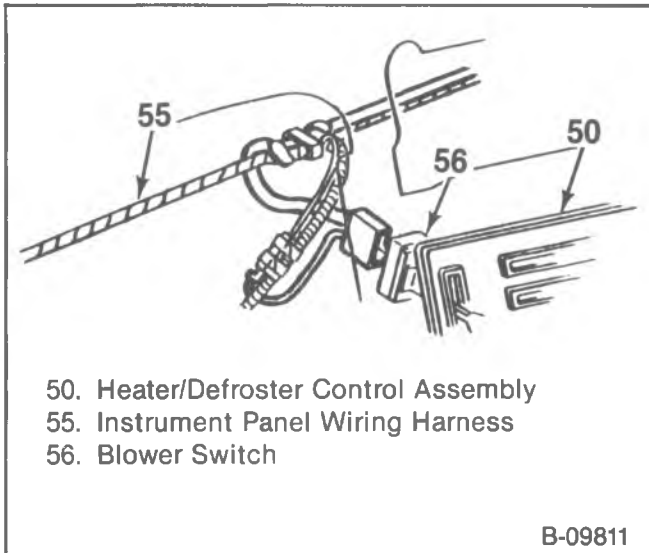

Figure 15—Blower Switch
↔ Remove or Disconnect (Figure 15)
4. Control assembly (50) (figure 15).
6. Switch (56).
↔ Install or Connect (Figure 15)